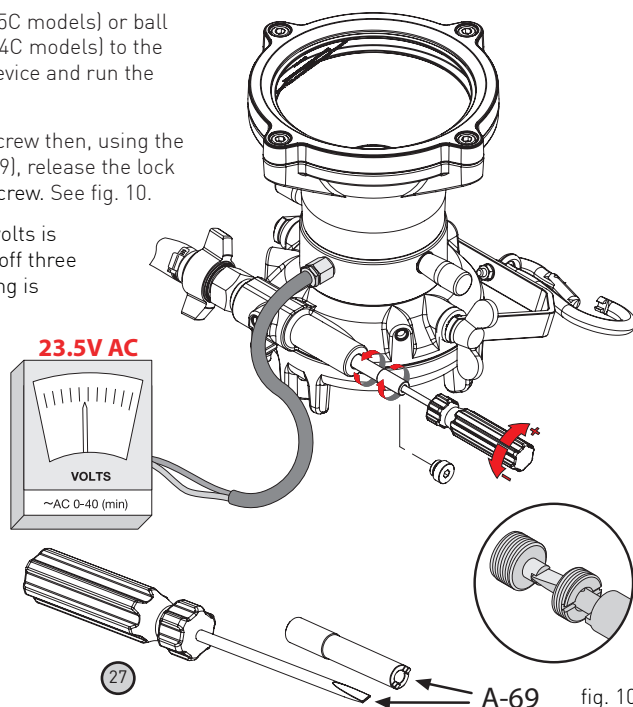

fig. 10
3. Remove the regulator lock screw then, using the pressure regulator key set (A-69), release the lock nut and adjust the regulating screw. See fig. 10.